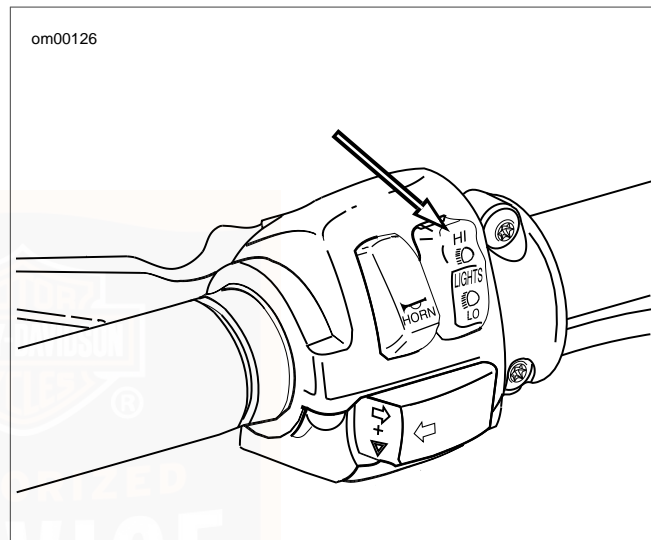

Figure 40. Headlamp Switch High Beam Setting
7. See Figure 40. Turn ignition switch ON. Set handlebar headlamp switch to HIGH beam position.